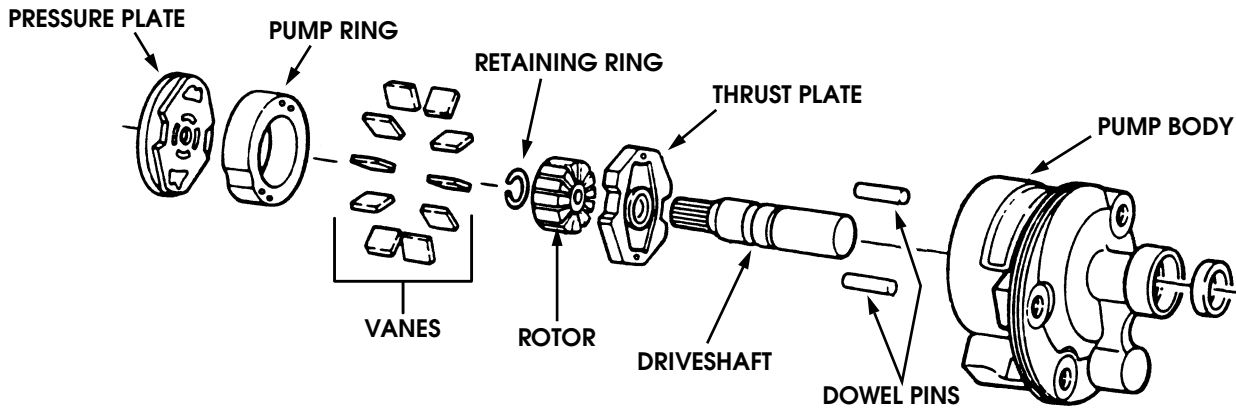

Figure 8-76: Pressure Plate and Rotor Removal
15. Remove pressure plate (Figure 8-76).